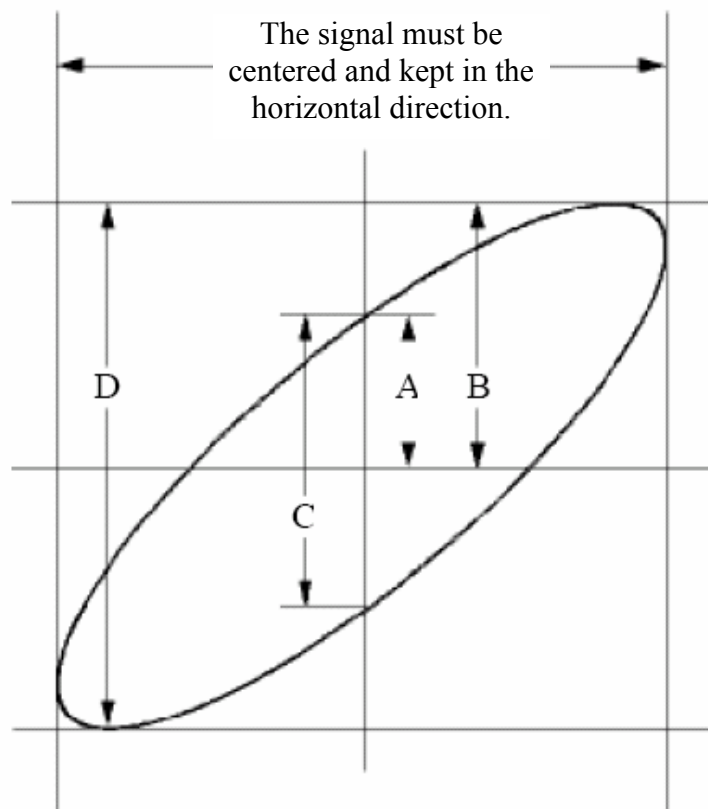

Fig. 58 Lissajous Graph
9. With the elliptical oscillogram method adopted, observe and calculate the phase difference (see Fig. 58).